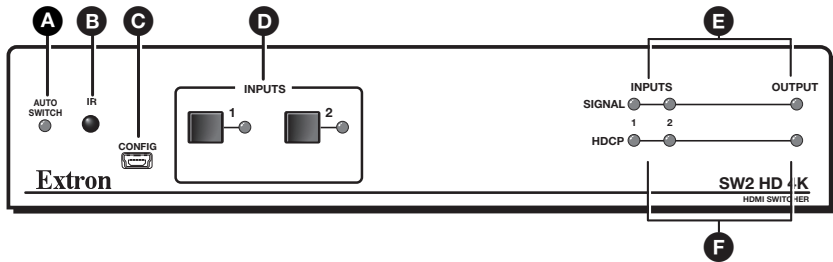

Figure 4. SW2 HD 4K Front Panel
- **Config port** — Connect a USB mini-B cable to the front panel USB connector (see figures 4 and 5, **C**, on the next page) for USB control.